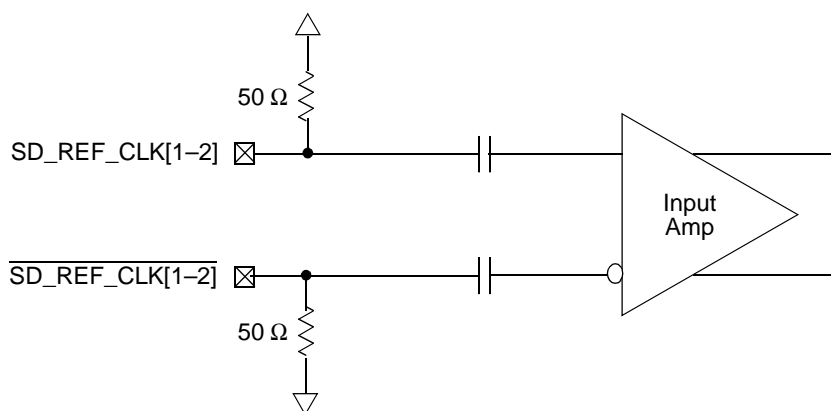

Figure 4. Receiver of SerDes Reference Clocks
The SerDes reference clock inputs are applied to an internal PLL whose output creates the clock used by the corresponding SerDes lanes. The SerDes reference clock inputs are  $\text{SD\_REF\_CLK1}/\overline{\text{SD\_REF\_CLK1}}$  or  $\text{SD\_REF\_CLK2}/\overline{\text{SD\_REF\_CLK2}}$ . Figure 4 shows a receiver reference diagram of the SerDes reference clocks.
- The  $\text{SD\_REF\_CLK}[1-2]$  and  $\overline{\text{SD\_REF\_CLK}}[1-2]$  are internally AC-coupled differential inputs as shown in Figure 4. Each differential clock input ( $\text{SD\_REF\_CLK}[1-2]$  or  $\overline{\text{SD\_REF\_CLK}}[1-2]$ ) has on-chip 50- $\Omega$  termination to SXCvss followed by on-chip AC-coupling.